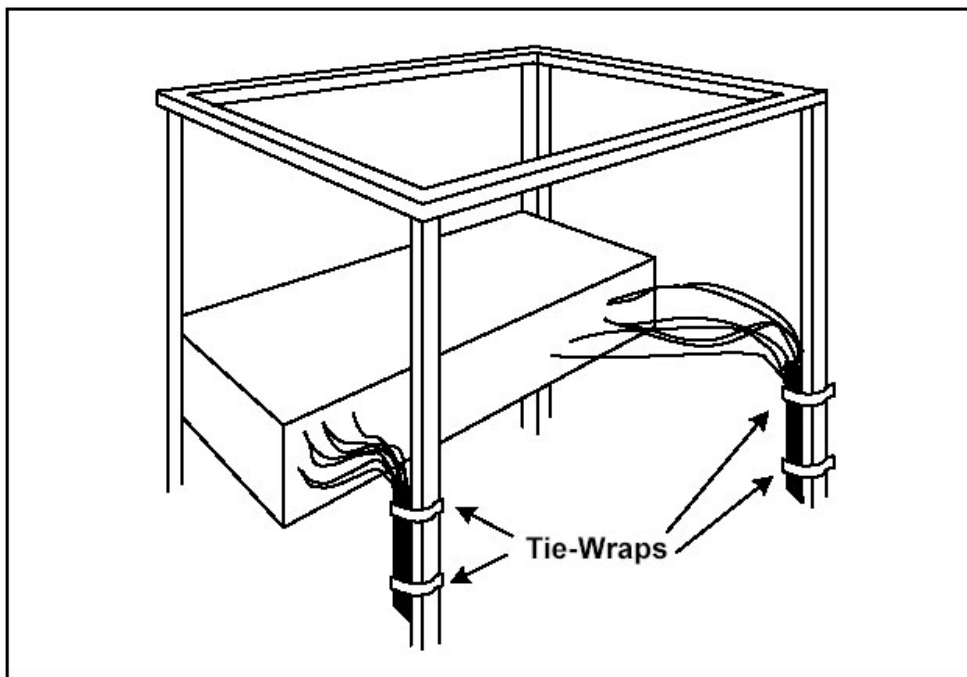

Figure 4. Cables Attached to Supports
2. Provide proper support for each cable during the cabling process. The use of tie-wraps is recommended as shown in Figure 4.